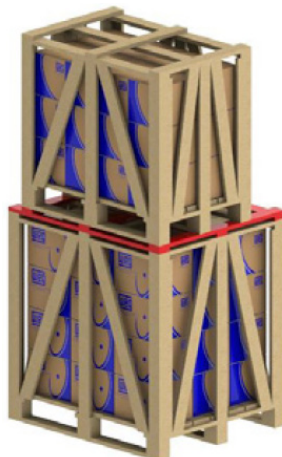

Figure 5.5: Use of additional battens for stacking
- 4) When stacking smaller crates onto longer crates, always ensure that suitable wooden supports are provided to withstand the weight (see Figure 5.5 on page 30). This condition usually occurs with motor packaging above IEC 225S/M (NEMA 364/5T) frame sizes.